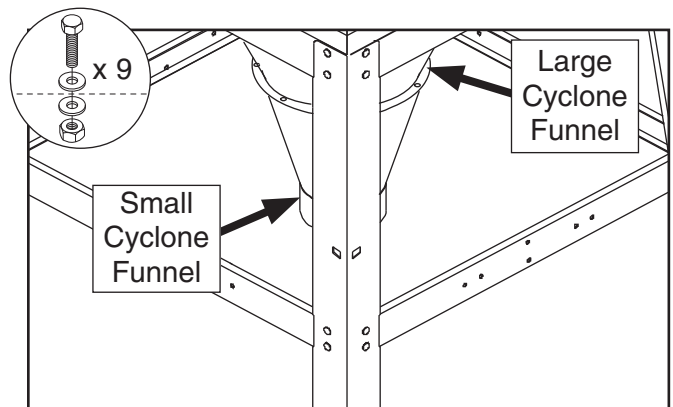

Figure 22. Small cyclone funnel and funnel port attached.
25. Attach small cyclone funnel to bottom of large cyclone funnel with (9) $\frac{5}{16}$ "-18 x $1\frac{1}{4}$ " hex bolts, (18) $\frac{5}{16}$ " flat washers, and (9) $\frac{5}{16}$ "-18 hex nuts (see **Figure 22**).